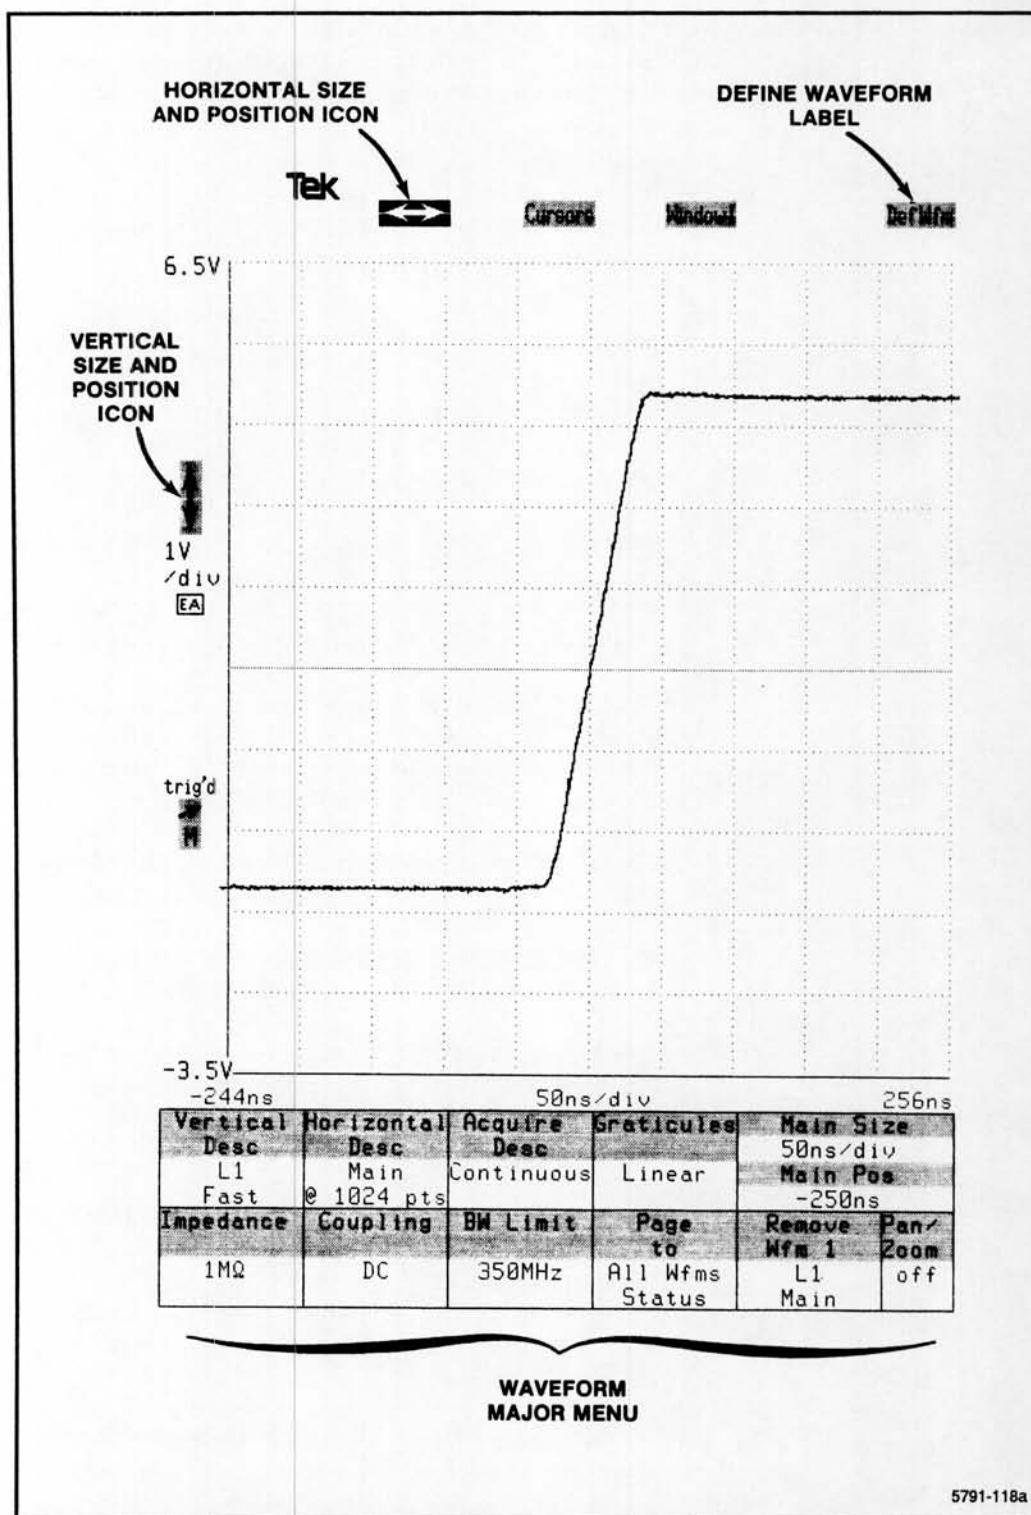

Figure 2-9. Location of DefWfm label for one graticule display.
3. Touching the **DefWfm** (define waveform) label (see Fig. 2-9) at the top right corner of the graticule and selecting a plug-in channel or stored waveform from the **Vertical Description** pop-up menu. Touching the **Enter Desc** label completes the selection and displays the waveform.
When you press the front-panel WAVEFORM button, the 11401/11402 displays the Waveform major menu in the menu/status area at the bottom of the screen. Refer to Figure 2-9. The selected waveform's status is displayed under each of the menu items listed below. Selection of the **Page to All Wfm's Status** label displays the scale factors for all displayed waveforms in the menu/status area.